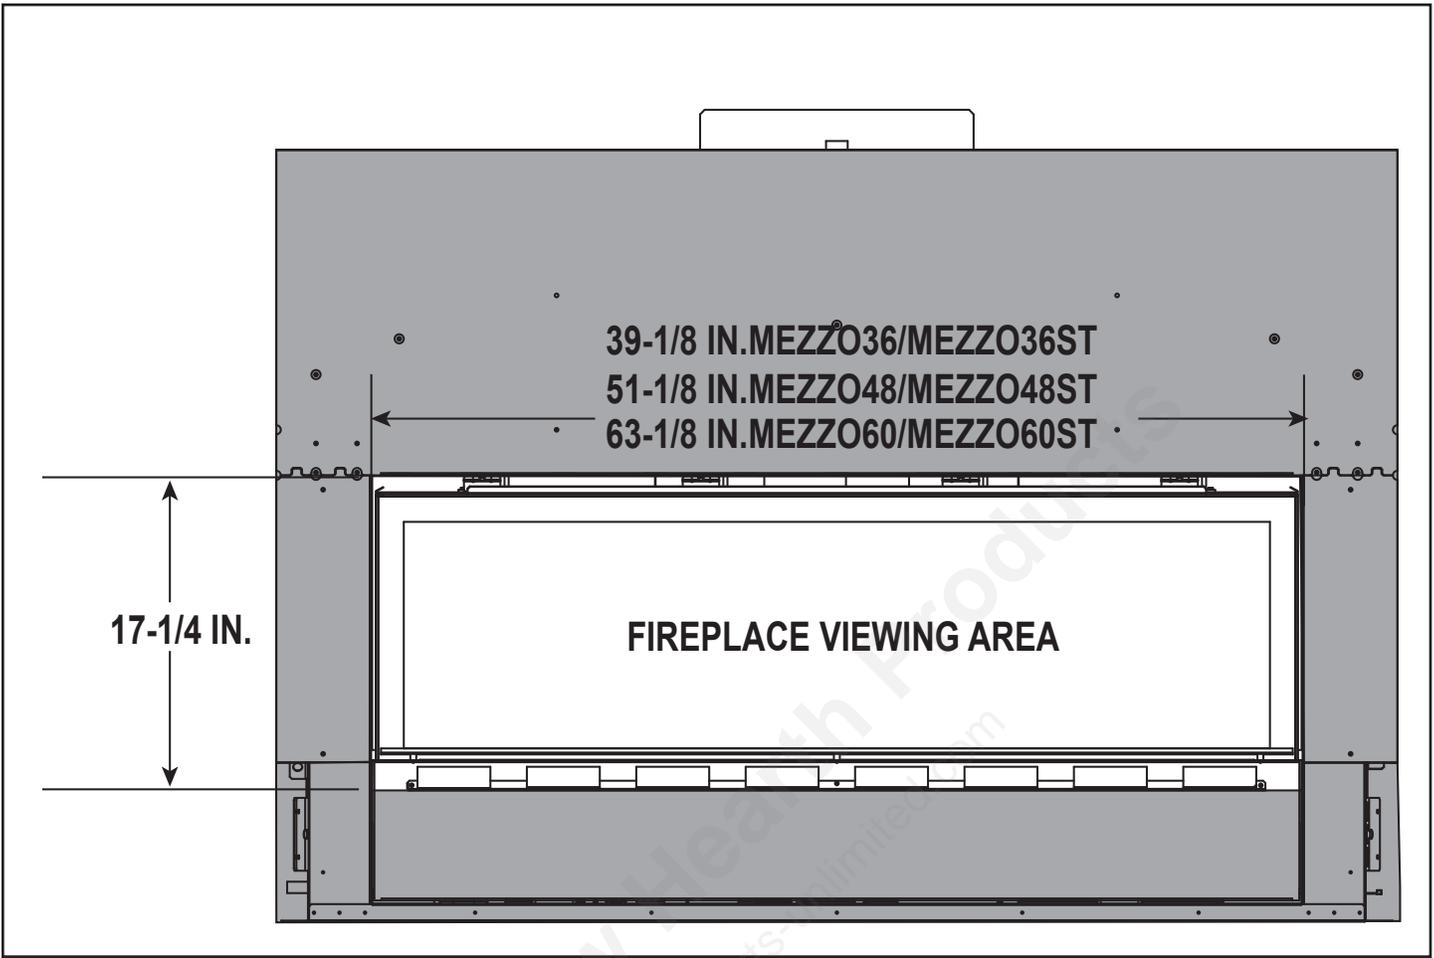

Figure 10.6 Finished Opening Dimensions - Overlap Fit Method
- A non-combustible hearth may be installed at the same level as the bottom of the appliance or lower. It may not cover any part of the appliance. See Figure 10.6.